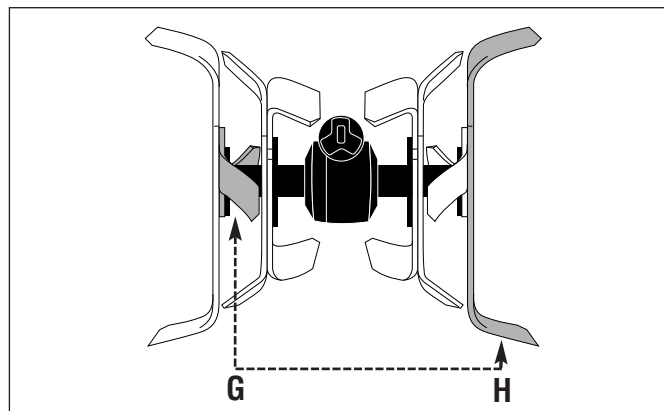

Figure 31: Exchanging position of tines at "G" and "H."
Step 4: Move the two *right-curved* tines from position "G" on the left outer holder to the "H" position on the right outer holder. Move the two *right-curved* tines which were at the "H" position to "G." See Figure 31.